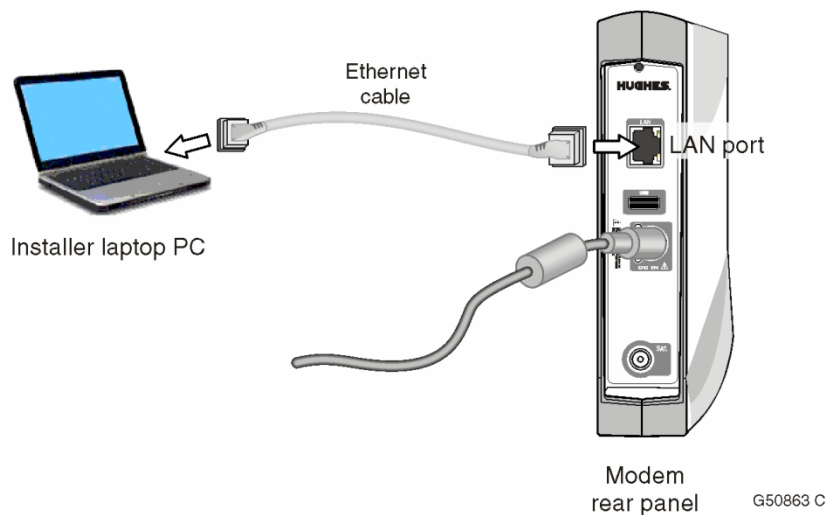

Figure 9: Connecting your laptop to the modem
1. Use an Ethernet cable to connect your laptop computer directly to the modem's LAN port, as shown in Figure 9. Do not connect the laptop to the modem through an Ethernet modem or switch.